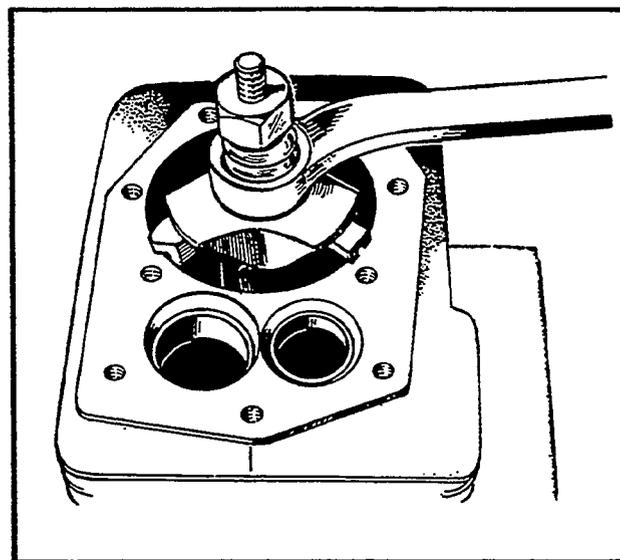

FIGURE 29. REMOVING RIDGE FROM THE CYLINDER
3. Remove the ridge from the top of each cylinder with a ridge reamer before attempting piston removal (Figure 29).